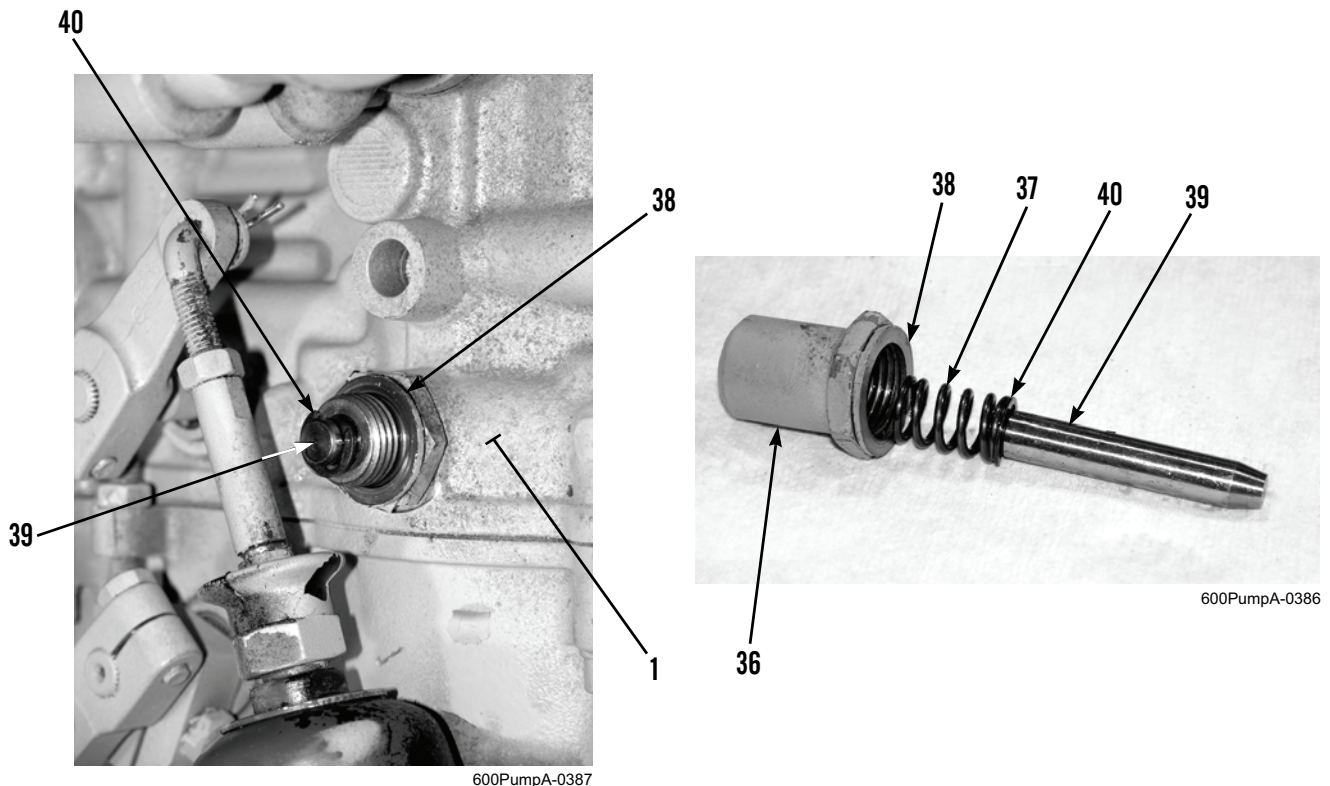
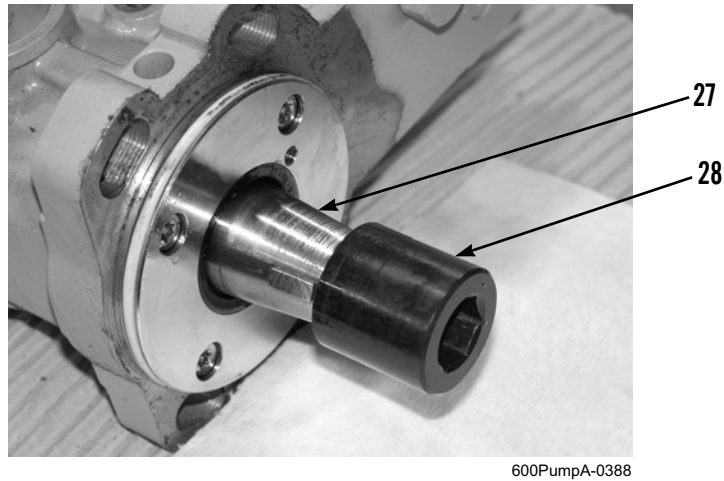

Figure 16. Setting Fuel Delivery to Cylinder No. 1.
Figure 17. Tensioning Nut and Fuel Injection Pump Shaft.
5. Install copper sealing ring (Figure 16, Item 38), insert positioning pin (Figure 16, Item 39) in fuel injection pump (Figure 16, Item 1), position compression spring (Figure 16, Item 37) on top of positioning pin circlip (Figure 16, Item 40), and secure with bolt sleeve (Figure 16, Item 36). Positioning pin must be fully seated into recess of fuel injection pump shaft (Figure 17, Item 27). This sets delivery of fuel to cylinder No. 1. If positioning pin fully seats into recess of fuel injection pump shaft, proceed to *Installation* in this work package.
6. Install tensioning nut (Figure 17, Item 28) on fuel injection pump shaft (Figure 17, Item 27). With light hand pressure on positioning pin (Figure 16, Item 39), very slowly rotate fuel injection pump shaft until positioning pin is fully seated into recess of fuel injection pump (Figure 16, Item 1).